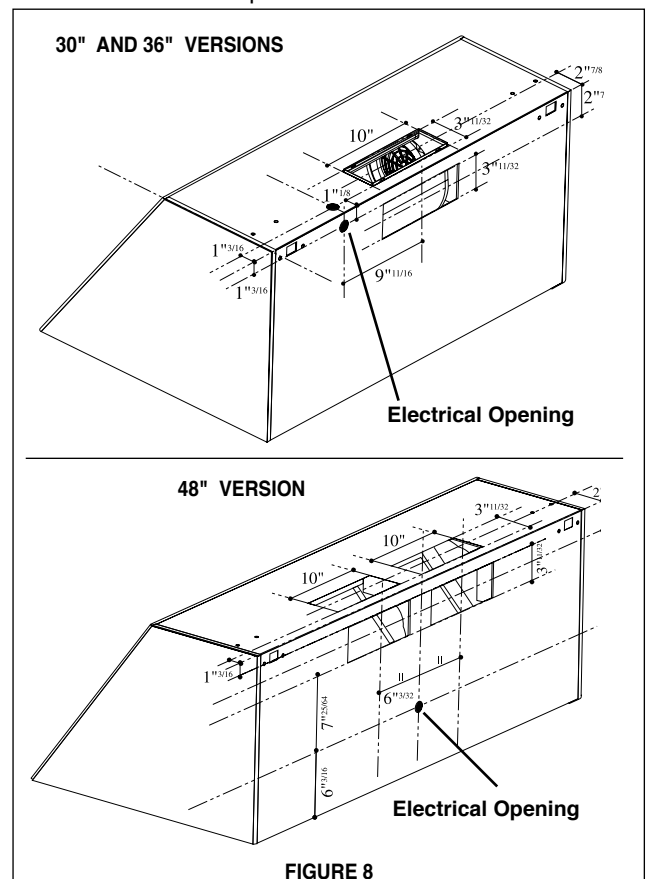

**FIGURE 7**
**FIGURE 7** provides the dimensions for the **Full Width Duct Cover** brackets. The **Full Width Duct Cover** also attaches to the top of the rangehood with screws provided. The **Full Width Duct Cover** must be attached to the top of the rangehood before mounting the rangehood to the wall.